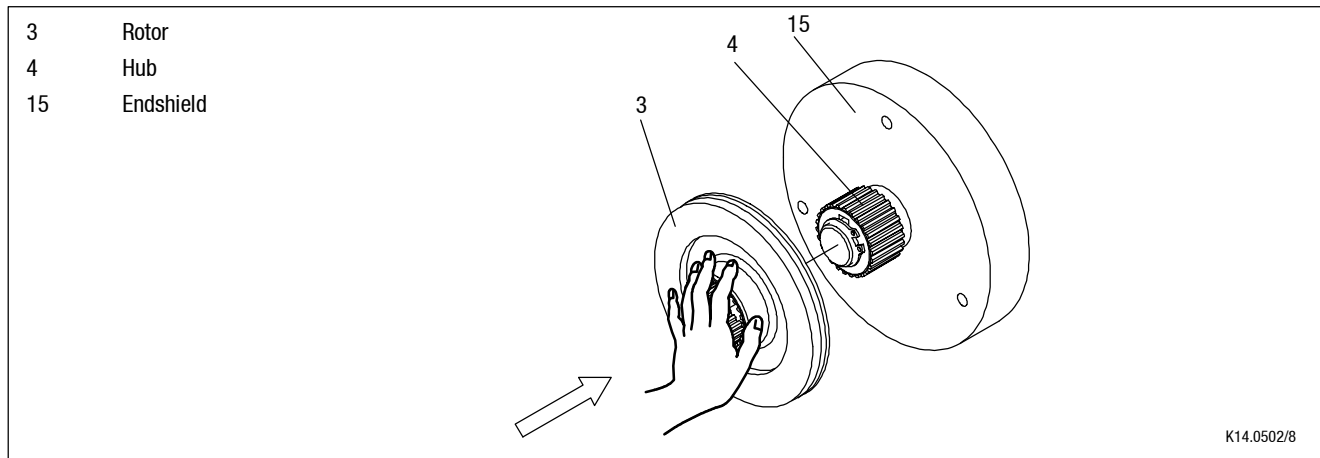

Fig. 6 Assembly of the brake
1. Push the rotor (3) onto the hub (4) and check whether it can be moved by hand (Fig. 6).